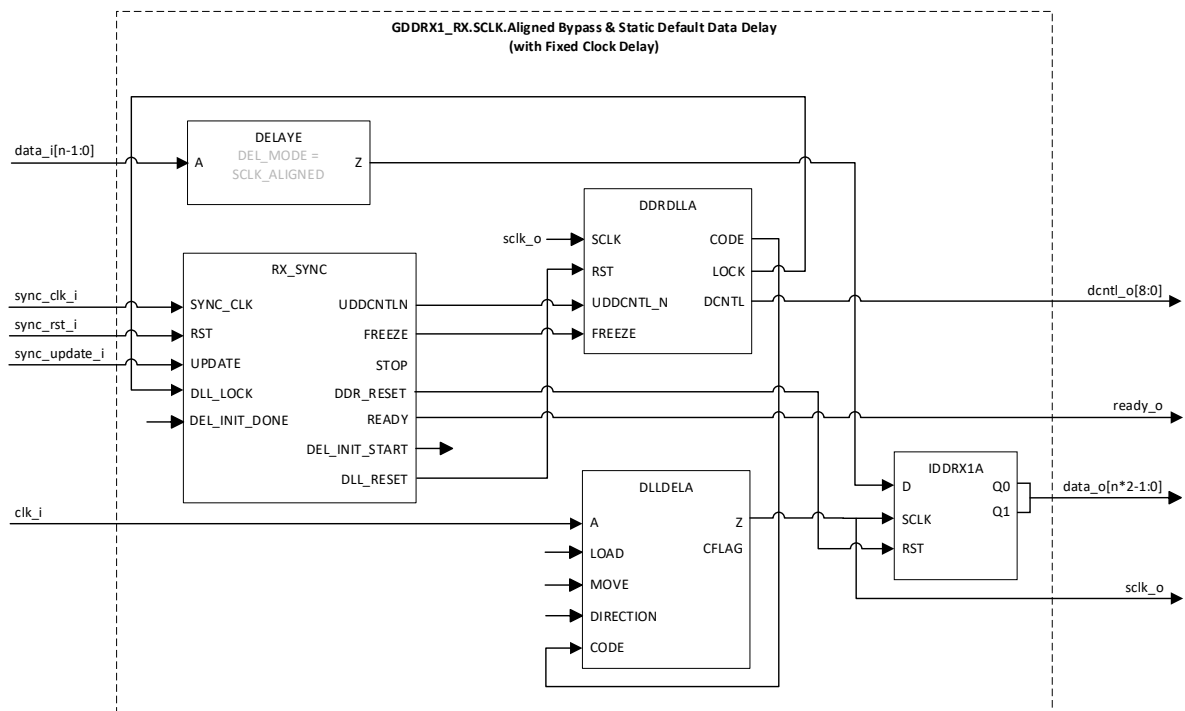
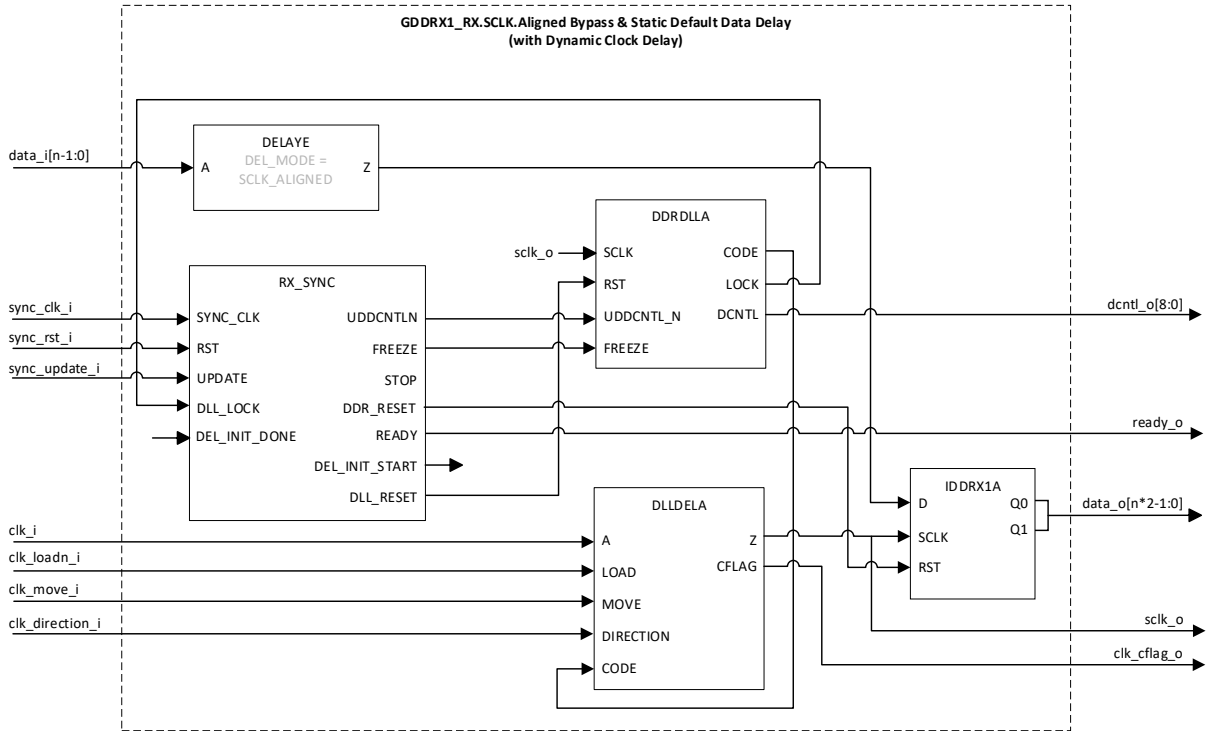
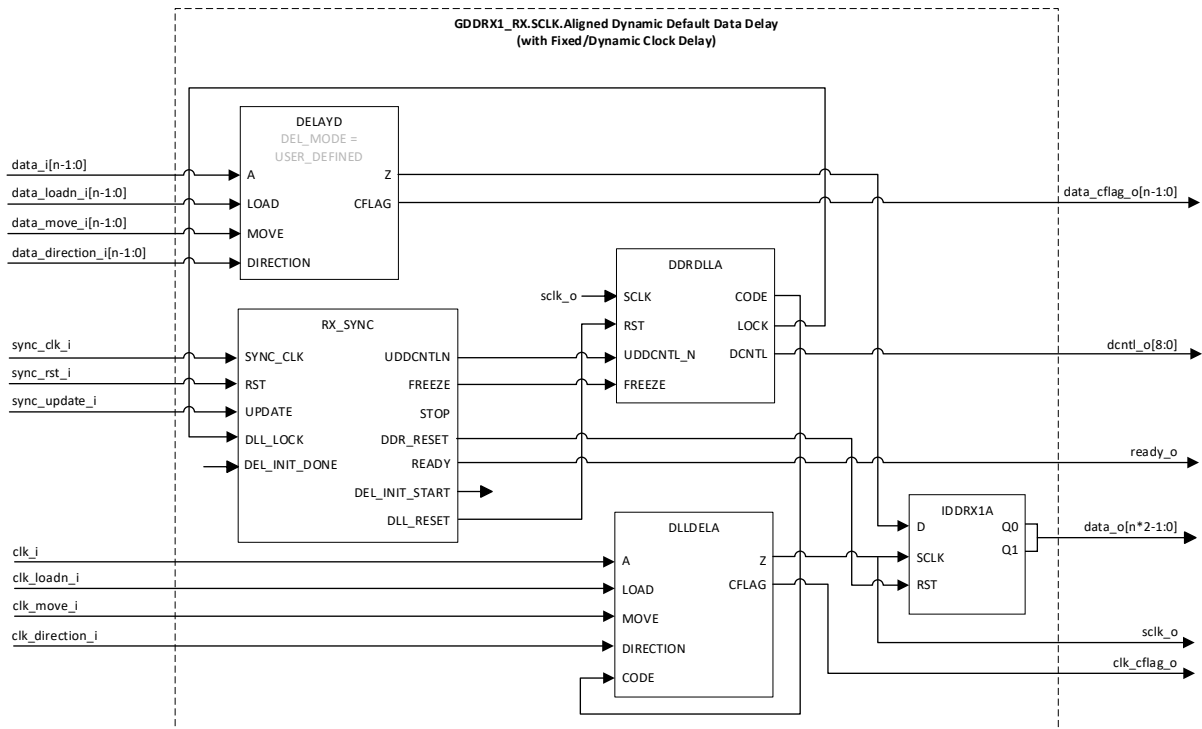

Figure 3.6. GDDR51_RX.SCLK.Aligned (Bypass and Static Default Data Delay with Fixed Clock Delay)
Figure 3.7. GDDR1_RX.SCLK.Aligned (Bypass and Static Default Delay with Dynamic Clock Delay)
Figure 3.8. GDDR1_RX.SCLK.Aligned (Dynamic Default Data Delay with Fixed/Dynamic Clock Delay)
- Figure 3.6 and Figure 3.7 show the bypass and static default delay modes for this interface. Figure 3.8 shows the dynamic default/user-defined delay options for this interface.